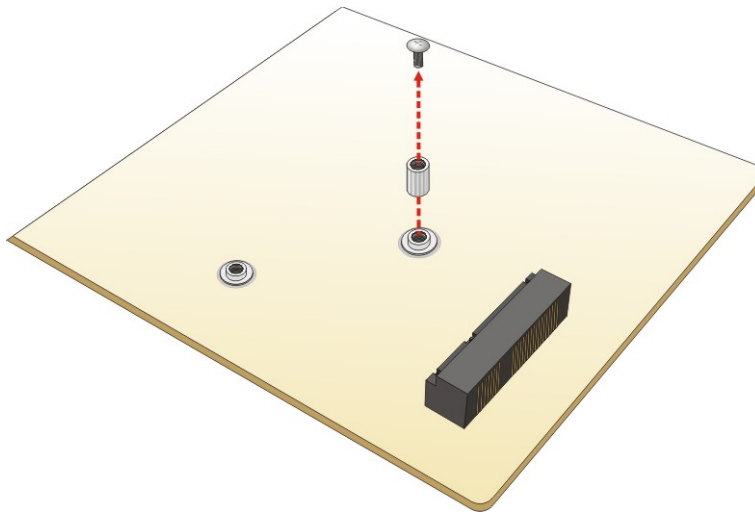

Figure 3-12: Removing the Retention Screw and Standoff
Step 3: To avoid interference of the board circuit, remove the retention screw and standoff for a half-size PCIe Mini card as shown in **Figure 3-12**.